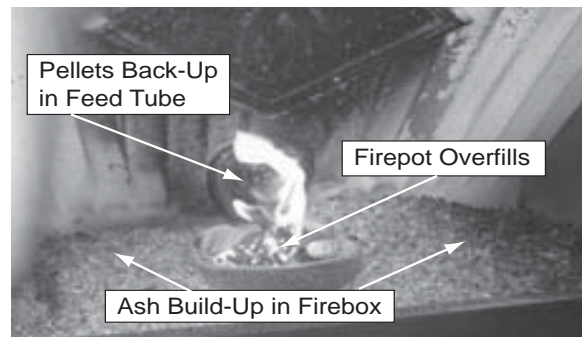

Figure 20.1
2. Using a Phillips head screw driver, remove 4 screws, 2 on the top and 2 on the bottom. Remove metal bracket and then remove the glass. **Figure 20.1**